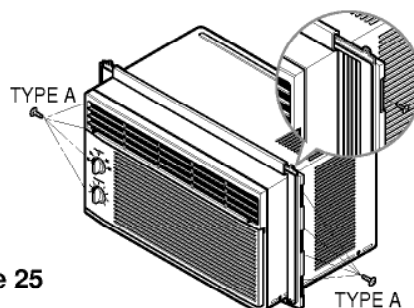

Figure 25
1. Insert the guide panels into the guides of the air conditioner. Fasten the curtains to the unit with screws (TYPE A) as shown Figure. 25.